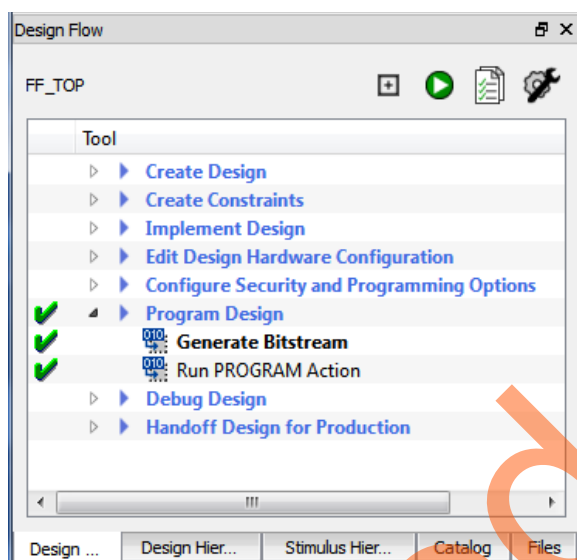

Figure 9 • Program the Design
- Expand **Program Design** in the **Design Flow** window. Double-click on **Run PROGRAM Action** to begin programming as shown in Figure 9. A green check mark appears next to the **Program Design** in the **Design Flow** window to indicate programming is completed successfully.